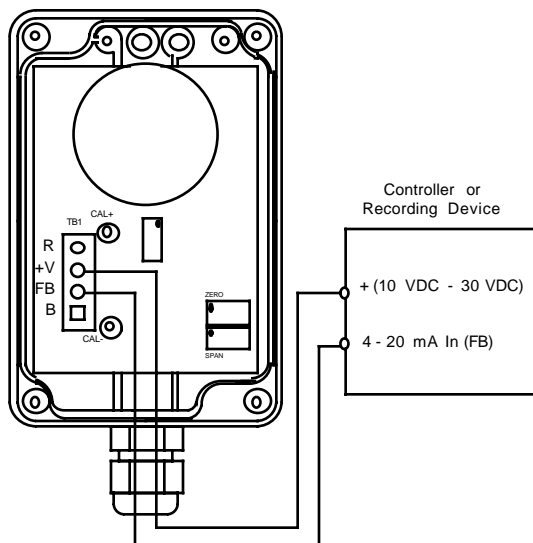

Figure 3: Wiring the H₂S Transmitter to a Controller
5. Connect the two wires to the interconnect terminal strip as follows (see Figure 3.)
8. Connect the wires to the applicable controller transmitter terminal strip as shown in Figure 3 below.